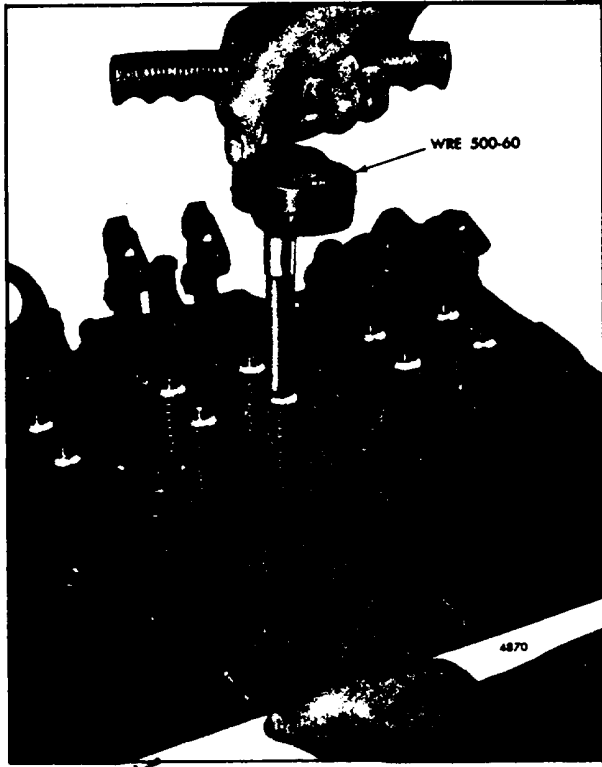

Fig. 15.- Checking Valve Opening Pressure
10. With the exhaust valves installed in the cylinder head, use spring checking gage WRE -500-60 and note the gage reading the moment the exhaust valve starts to open (Fig. 15). The minimum pressure required to start to open the exhaust valve must not be less than 25 pounds.